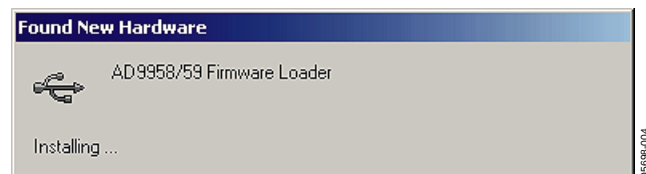

Figure 4.
4. Then, this window (Figure 4) also appears and disappears.